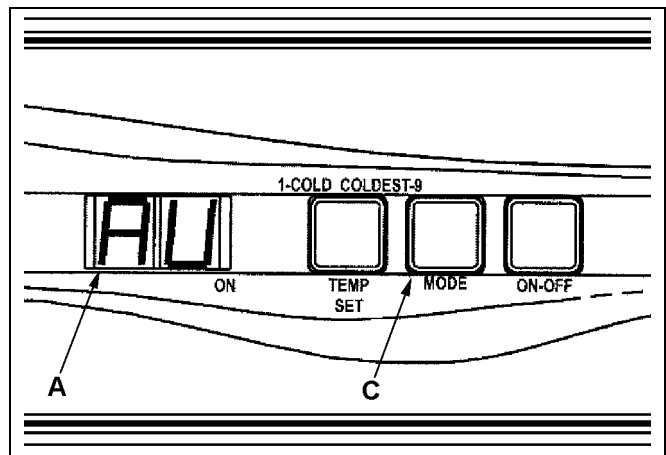

Figure 9-9 – Refrigerator Control Panel
- Press the Mode button (C) until the letters “AU” show in the display (A). Release the mode button. See figure 9-9.